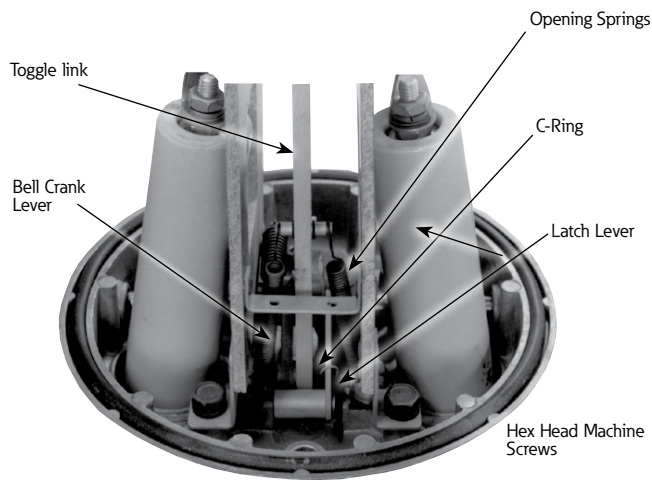

Figure 8. Components of toggle mechanism assembly.
The Type NR oil switch bushings are oil-filled. The special fixtures and procedures required to assemble these bushings is beyond the scope of normal shop maintenance repair. Therefore if a bushing is in any way damaged, the complete bushing assembly must be replaced. Refer to Figure 8 and proceed as follows:
1. Detach both opening springs from toggle link (Figure 8).